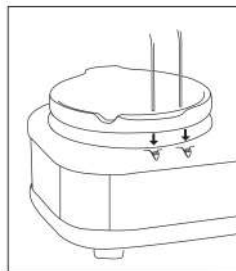

Figure 1
3. Assemble the Lid Rests by inserting each into the holes provided behind each inner pot cavity (Figure 1).